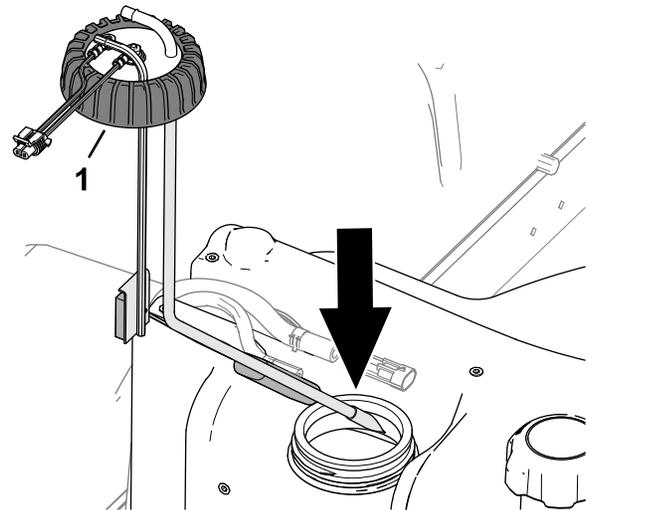

Figure 93
- 2. Carefully assemble the fuel pick-up tube and float into the fuel tank (Figure 93).